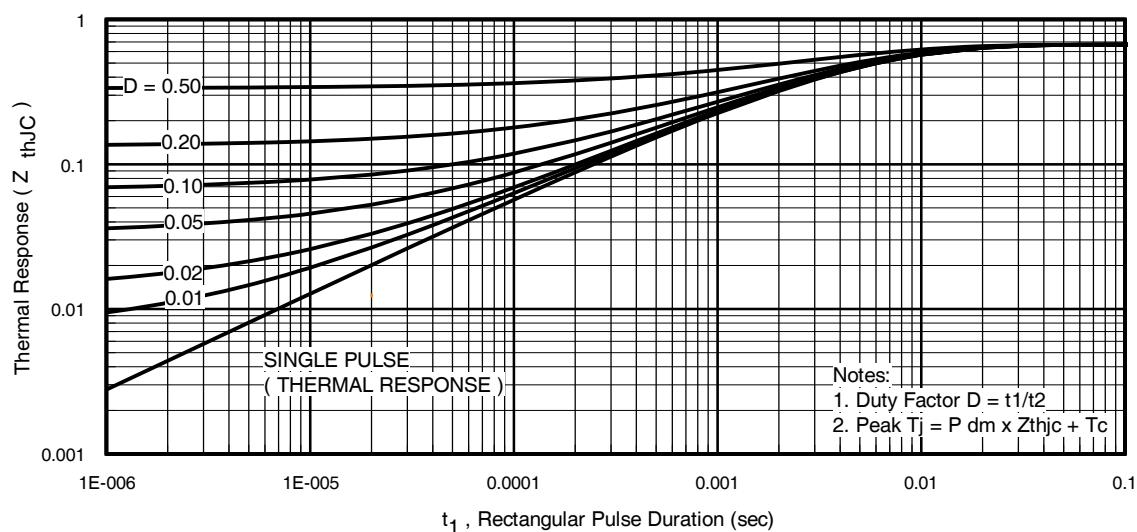
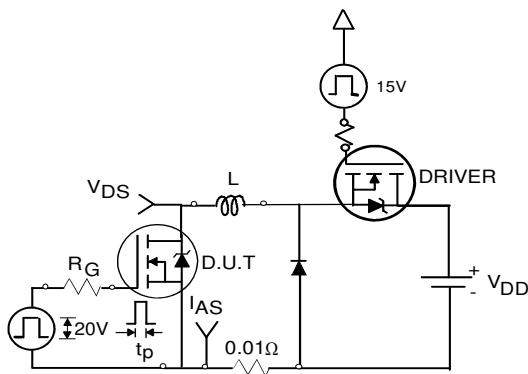

Fig 11. Maximum Effective Transient Thermal Impedance, Junction-to-Case
Fig 12a. Unclamped Inductive Test Circuit
- ① Repetitive rating; pulse width limited by max. junction temperature. (See fig. 11)
- ② Limited by $T_{J\max}$, starting $T_J = 25^\circ\text{C}$, $L = 0.11\text{mH}$, $R_G = 25\Omega$, $I_{AS} = 75\text{A}$, $V_{GS} = 10\text{V}$. Part not recommended for use above this value.
- ③ Pulse width $\leq 1.0\text{ms}$; duty cycle $\leq 2\%$.
- ④ $C_{oss\ eff.}$ is a fixed capacitance that gives the same charging time as C_{oss} while V_{DS} is rising from 0 to 80% V_{DSS} .
- ⑤ Limited by $T_{J\max}$, see Fig.12a, 12b, 15, 16 for typical repetitive avalanche performance.
- ⑥ This value determined from sample failure population, starting $T_J = 25^\circ\text{C}$, $L = 0.11\text{mH}$, $R_G = 25\Omega$, $I_{AS} = 75\text{A}$, $V_{GS} = 10\text{V}$.
- ⑦ This is only applied to TO-220AB package.
- ⑧ This is applied to D²Pak When mounted on 1" square PCB (FR-4 or G-10 Material). For recommended footprint and soldering techniques refer to application note #AN-994
- ⑨ TO-220 device will have an R_{th} value of $0.65^\circ\text{C}/\text{W}$.
- ⑩ R_θ is measured at T_J approximately 90°C .
- ⑪ Calculated continuous current based on maximum allowable junction temperature. Package limitation current limit is 160A. Note that current limitations arising from heating of the device leads may occur with some lead mounting arrangements. (Refer to AN-1140)
3. Equation below based on circuit and waveforms shown in Figures 12a, 12b.